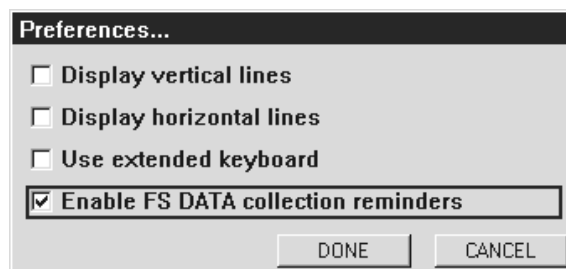

Figure 26: Preferences dialog
- 4 Press the rotary control knob a second time to open the Preferences dialog (Figure 26 below).